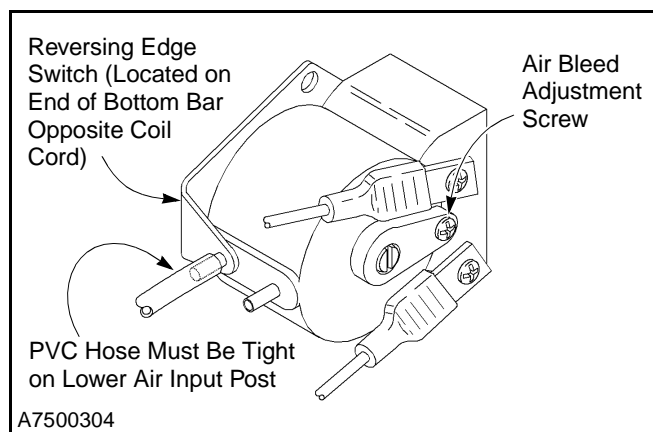

Figure 33
3. Make sure the PVC hose is tight on the lower air input post to prevent air leakage and to ensure the hose will not vibrate off the post. Also make sure the hose is not kinked. (See Figure 33.)